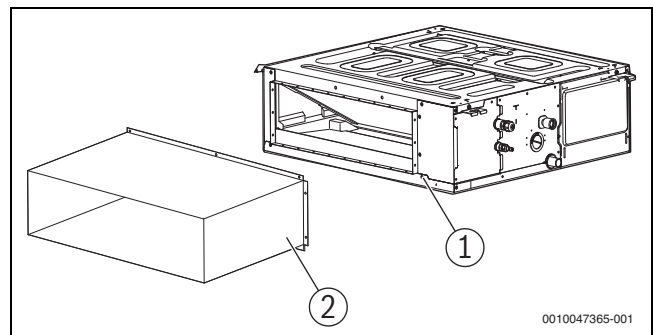

Fig. 8
- If the air outlet panel is far away from the unit and needs to be connected to the air outlet flange of the unit through a metal air duct, sponge shall be pasted on the contact surface of sheet metal for sealing and thermal insulation.(→ figure 8).